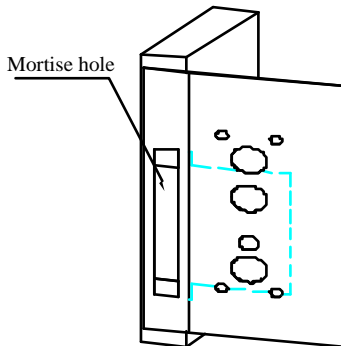

Figure 2
2) draw the lock body's insert port at the relative height on the side of the door, and make sure the insert port is in the middle of thickness of door. Show as figure 2.